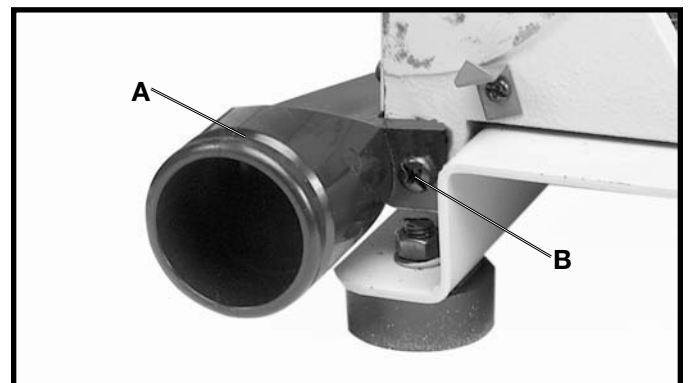

Fig. 12
Assemble the sanding disc dust chute (A) to the disc sander base using the M6x1x15mm cheese head screw and 6.4mm internal tooth lockwasher (B), as shown in Fig. 12.